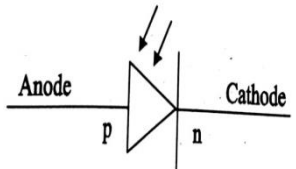

Fig. 4.12
3. The symbol of the photo diode is as shown in figure. 4.12.